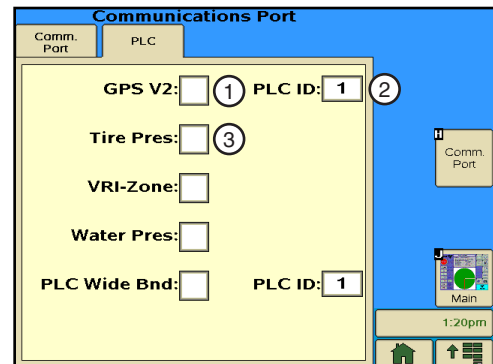

Figure 44-3 1. GPS Version 2 Checkbox
3. Push the **PLC** tab to display the PLC screen. Refer to Figure 44-3.
1. Push **Setup, Comm. Port, PLC** to display the PLC screen. Refer to Figure 44-3.